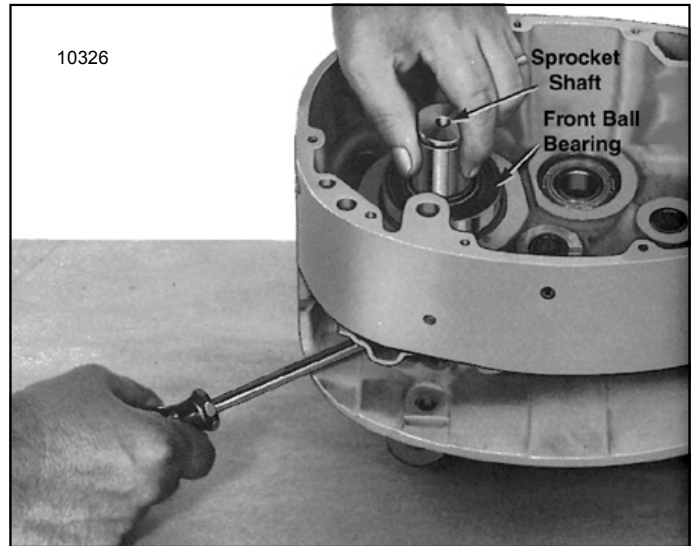
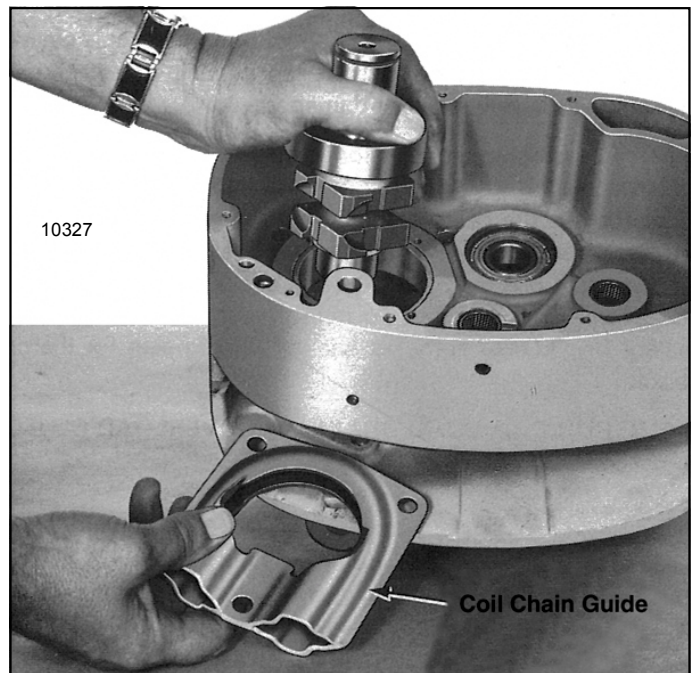

Figure 7-14. Removing Sprocket Shaft and Front Bearing
Figure 7-15. Chain Guide Being Removed from Frame as Sprocket Shaft is Lifted Out
(4) Remove sprocket shaft and front ball bearings assembly from frame by lifting up on end of shaft while prying up on sprocket as illustrated in figure 7-14. The chain guide will need to be repositioned in frame as sprocket shaft is raised to allow the sprocket to pass through hole of guide (fig. 7-15).